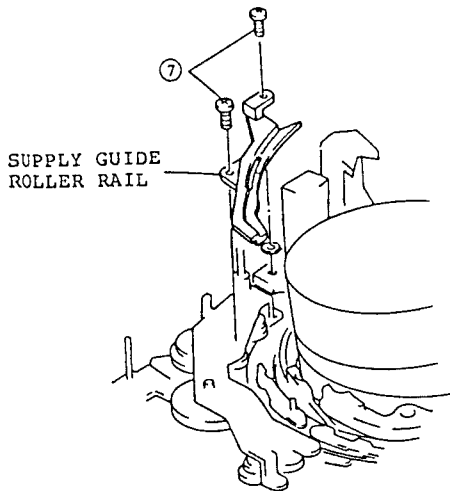

Fig. 2-83
7. Remove two (2) screws holding the supply guide roller rail. (See Fig. 2-83)
(See Fig. 2-83)